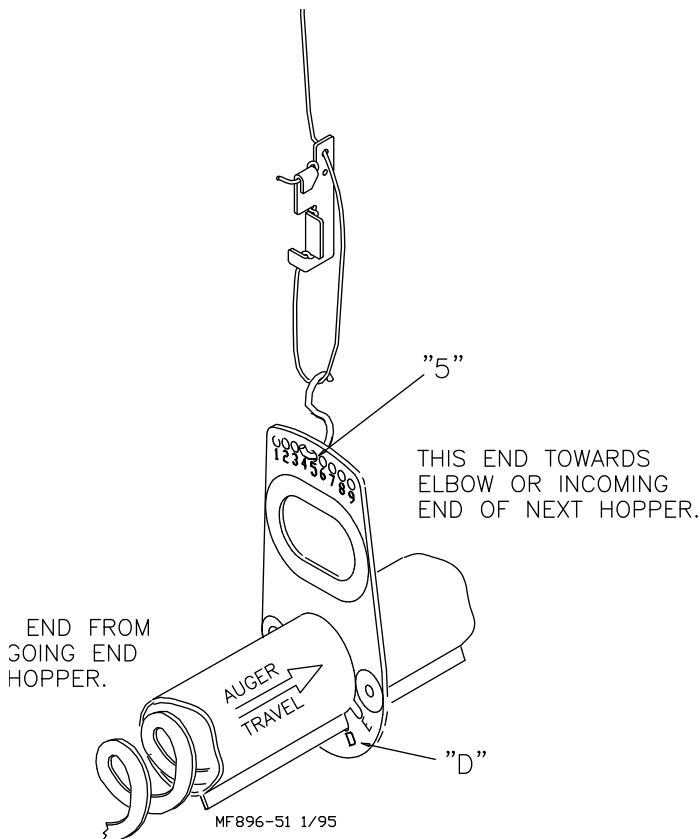

Figure 42.
- Starting at the hopper (winch if the hopper is placed at the end of the building), begin suspending the feeder tubes by using the cable adjuster and drop cable. **Figure 42 shows the proper use of the cable adjuster.**
- Use the index chart on page 30 to determine the proper setting to place the cable through the adjustable hangers. **Figure 42 shows** how the setting numbers (C1, C2, etc.) from the chart relate to the adjustable hanger. Example: the hanger in **Figure 42** is set to "D5".